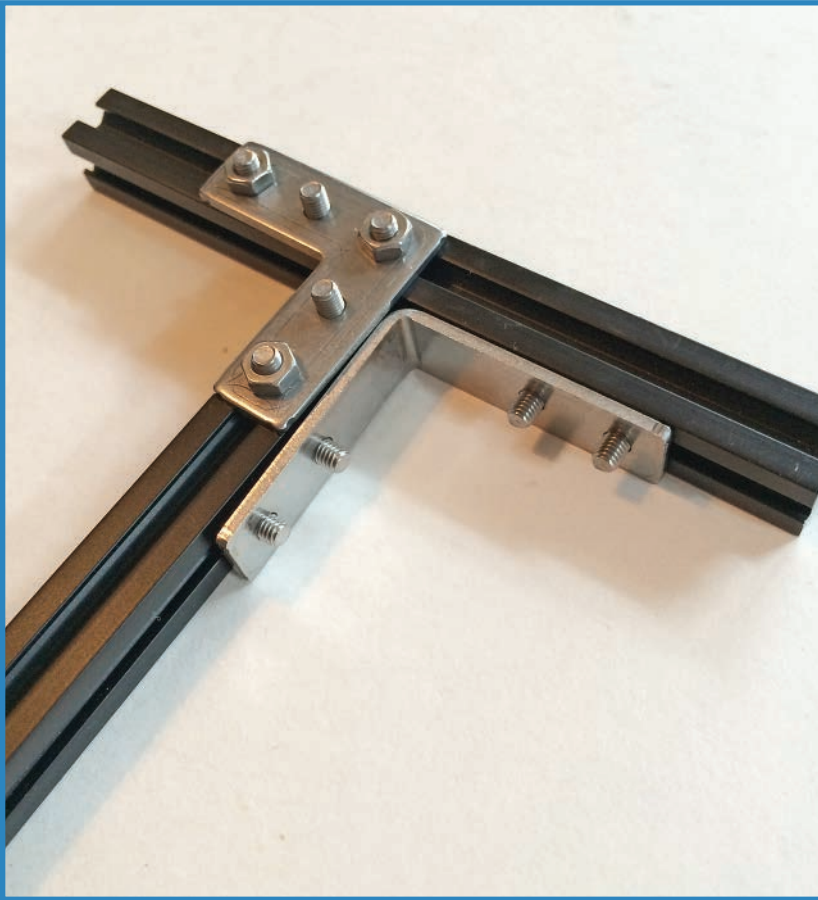

FIGURE 4.11 Reinforce the “T” with another bracket.
- c. Add a corner-bracket to help secure the beams, as shown in Figure 4.11. Secure the bracket the normal way.